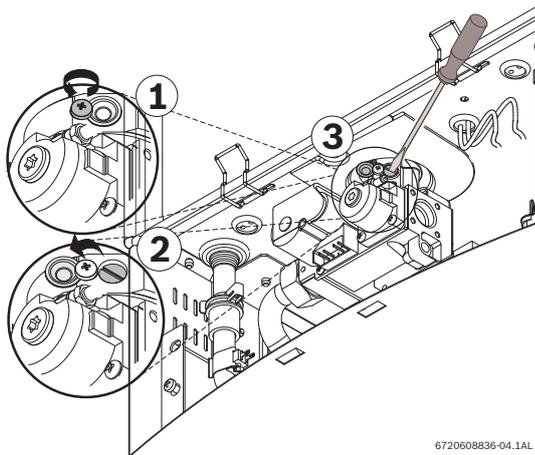

Fig. 62 Adjusting P1 CO₂ level
- ▶ Loosen yellow painted philips screw (1) and cover should rotate down (2) revealing a recessed brass slotted screw. Fig. 62.